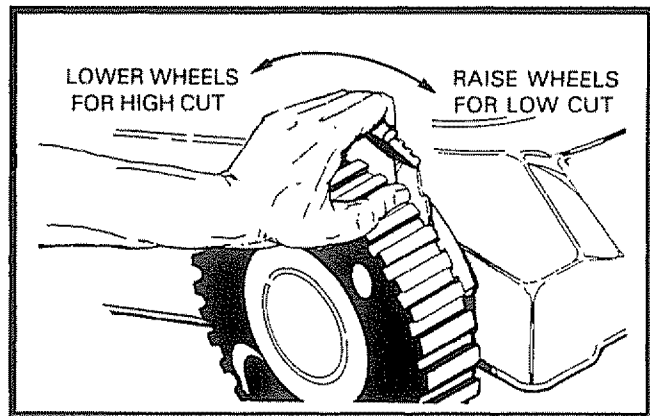

FIG. 4
- To change cutting height, squeeze Adjuster Lever toward Wheel. Move Wheel up or down to suit your requirements. Be sure all Wheels are in the same setting (See Fig. 4).